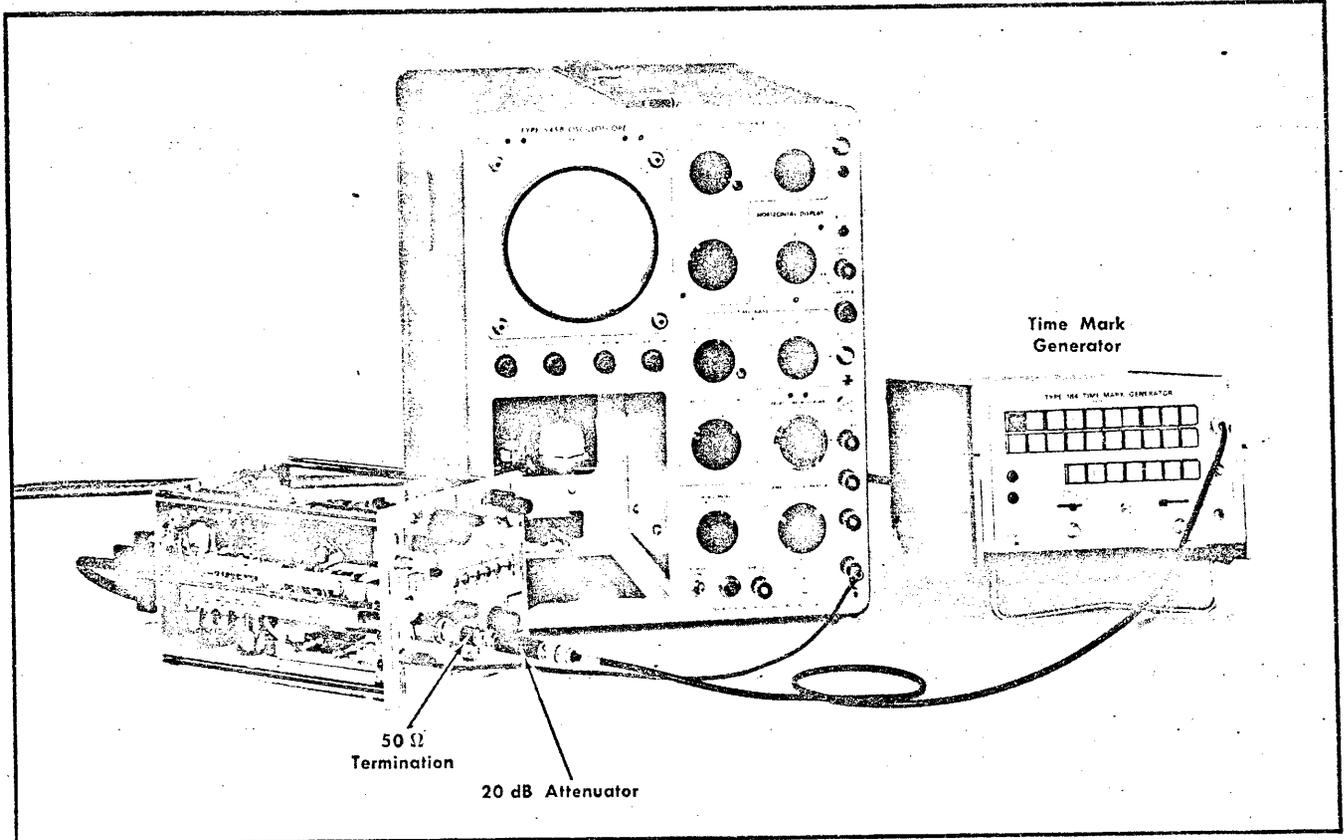

Fig. 6-13. Equipment setup to adjust and check kHz/CM dispersion accuracy (steps 6 and 7).
- a. Equipment setup is shown in Fig. 6-13.